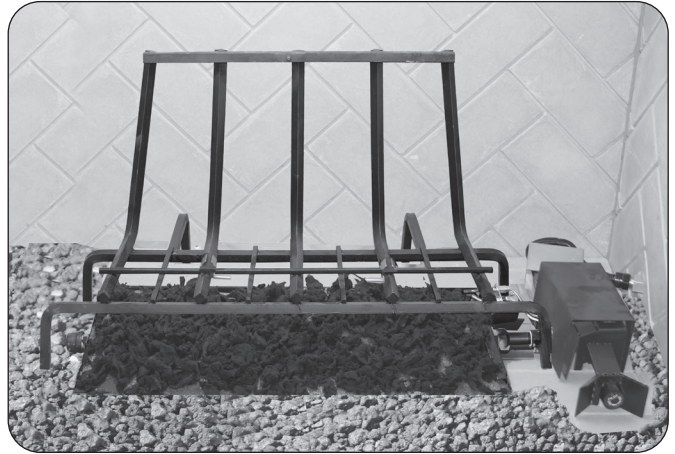

Fig. 20-1 Place grate
See Fig. 20-1.
2. Place a second layer of embers lightly and evenly over the burner and grate area. Be sure to cover the grate bars/fingers as shown. See Fig. 20-1.